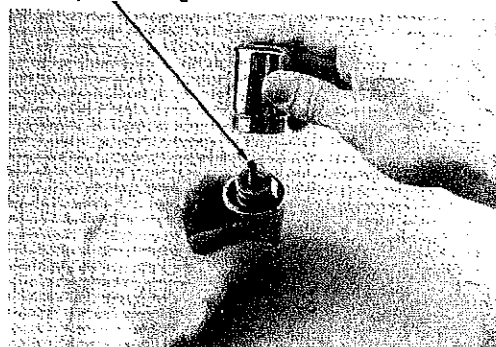
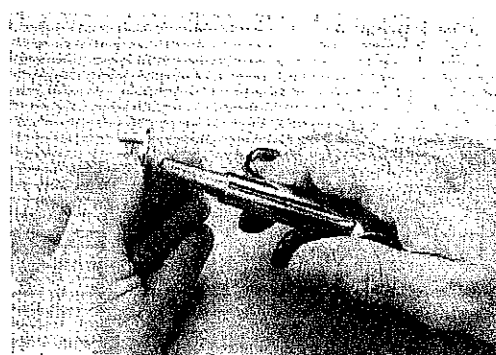

Fig. 10A
Fig. 11A
9. Rotate the main body and the piston cap in opposite directions to separate, with the main body facing up vertically. Lift the main body straight up and off the shaft of the piston(32) to avoid any angular pressure that might damage the delicate edge of the piston shaft(32). (See fig. 10A.) Set the piston cap aside, standing on the swivel, with the piston shaft exposed and facing up.
10. Look for the colored spring isolator(30) found either inside the cavity of the main body, or on the end of the valve spring(31). Remove and inspect for signs of wear or distortion, and discard if found.
11. Insert the prongs of a genuine Oceanic face spanner wrench into the two outer recessed holes of the valve seat end plug(24), found on the end of the main body. Use downward pressure to hold the tool seated securely, and rotate the end plug in a counterclockwise direction to remove. Remove and discard the valve seat o-ring(27). Remove and inspect the end plug o-ring(25) for any signs of decay. Discard if found.
12. Remove the valve seat(26) from the end plug by directing short blasts of low pressure air through the small opening found directly in the center of the end plug. (See fig. 11A.) First, wrap a cloth over the seat to prevent it from ejecting suddenly and becoming lost. Discard and DO NOT attempt to reuse.